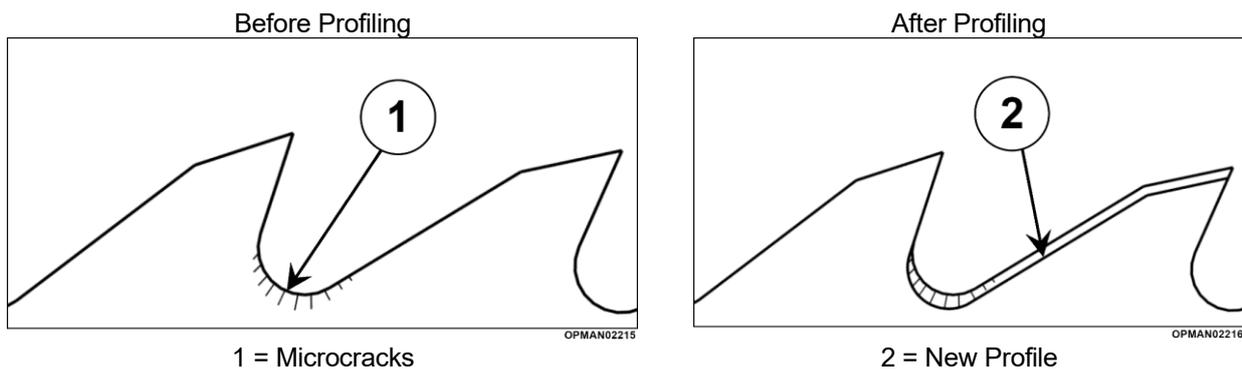

Figure 25
Before any setting, crushing or stellite tipping operation, make sure to shape the tooth profile on a grinder, through several light runs, to eliminate micro cracks around teeth caused by the cutting tool; see Figure 25 (1). If this precaution is not taken, teeth may be broken during setting or eroded during crushing, or saw blades may be cracked at the bottom of teeth during cutting.